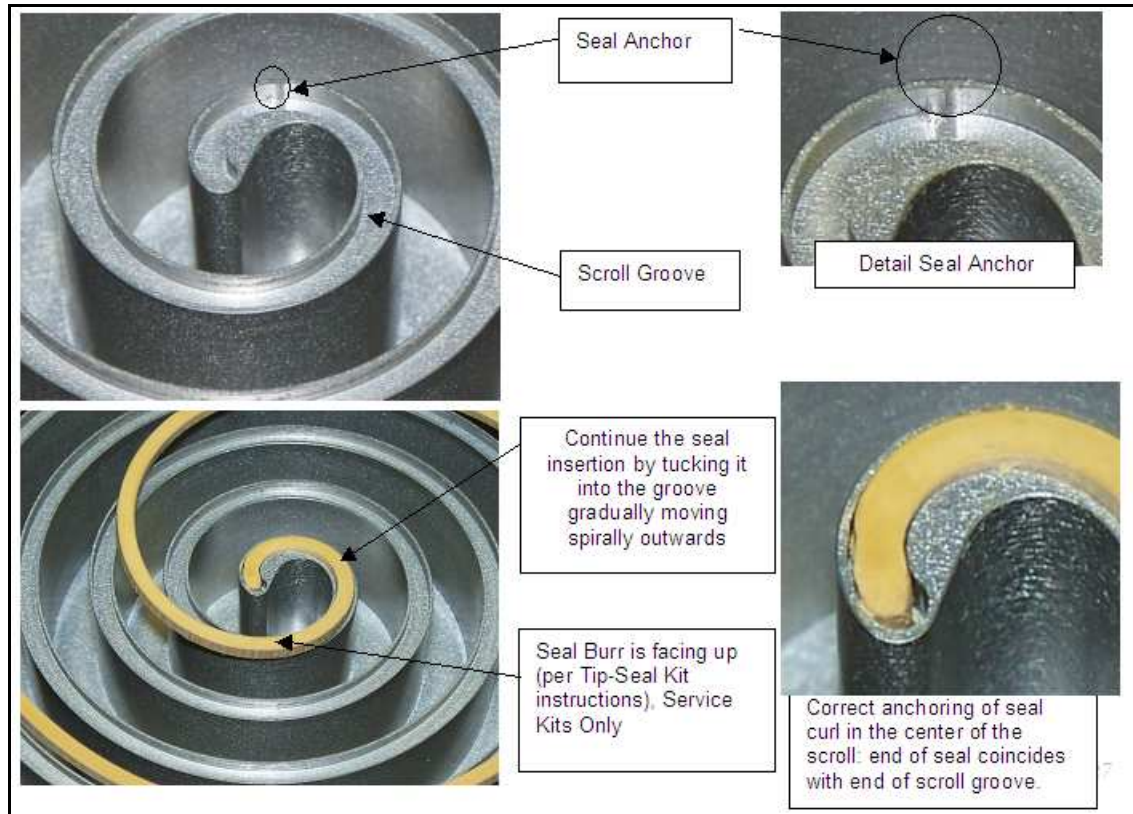

Figure 11 Tip Seal Seating
2. Install the correct tip seal into the groove of the orbiting scroll (item 8) by:
- a. Facing the cutting burrs on the edges of the seal upwards, inserting the tightly curled end into the center of the orbiting scroll, until the seal is well seated in the groove and the anchor inside the groove protrudes into the seal's side (Figure 11). The seal may need to be pushed firmly to sit well into the groove.